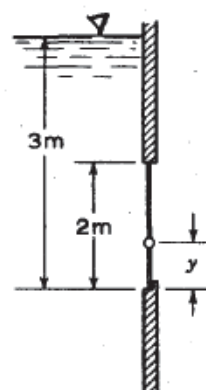

Fig. 3-49
3.60 Determine the pivot location y of the square gate in Fig. 3-49 so that it will rotate open when the liquid surface is as shown.